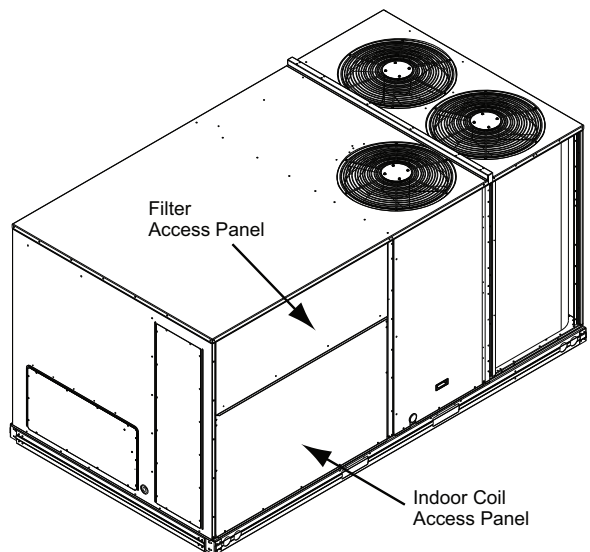

Fig. 2 — Filter Access View
2. Remove the existing unit filter access panel. Raise the panel and swing the bottom outward. The panel is now disengaged from the track and can be removed. (See Fig. 2.)
3. Remove the indoor coil access panel. (See Fig. 2.)